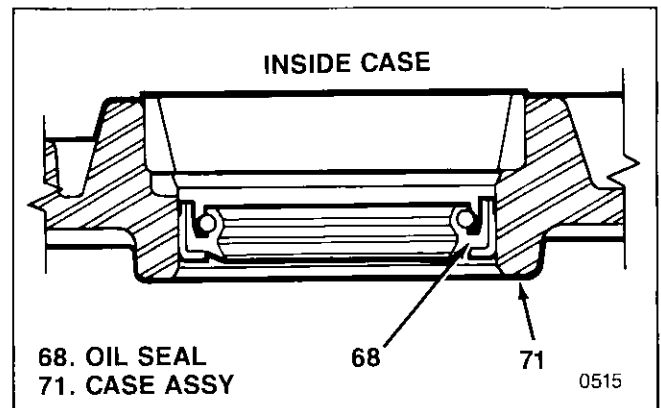

Figure 5-2. Shaft Seal Installation
1. If removed, press in new bearing cups (75) to bottom in case and magnet assembly (76) using suitable drift.
2. If removed assemble thrust washer (74) and press new needle bearing (73) in to bottom in case and magnet assembly (76) using suitable drift.
3. If removed, press in new dowel pins (72) to project 0.49-0.51 in. (12.4-13.0 mm) above face of case and magnet assembly (76).
4. If removed, transfer all data from old identification plate (70) to new plate and attach to case assembly (71) using Silastic RTV No. 732 or GE Simate RTV No. 1473.
5. Install breather (69).
6. Using suitable drift, press new oil seal (68) into bore for output shaft. Position shaft seal as shown in figure 5-2.